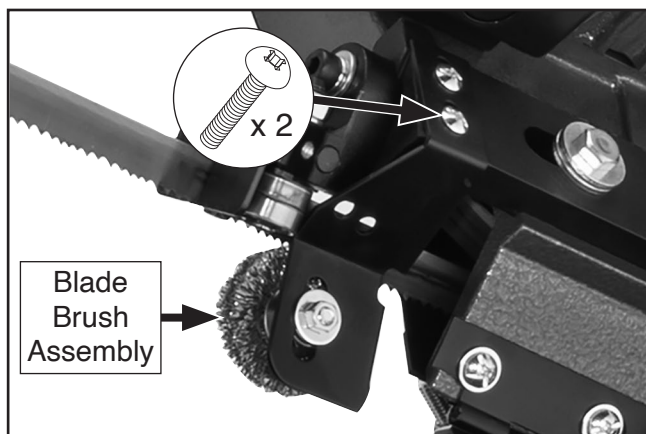

Figure 39. Location of blade brush assembly.
6. Remove (2) screws (see **Figure 39**) to remove blade brush assembly.